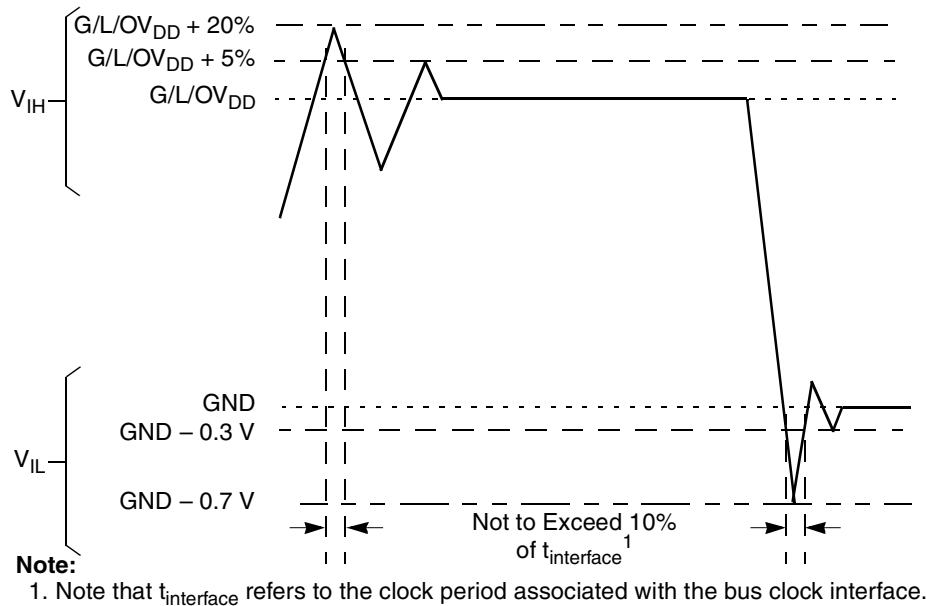

Figure 2. Overshoot/Undershoot Voltage for  $GV_{DD}/OV_{DD}/LV_{DD}$
- (M,L,O) $V_{IN}$  and  $MV_{REF}$  may overshoot/undershoot to a voltage and for a maximum duration as shown in Figure 2.
Figure 2 shows the undershoot and overshoot voltages at the interfaces of the device.